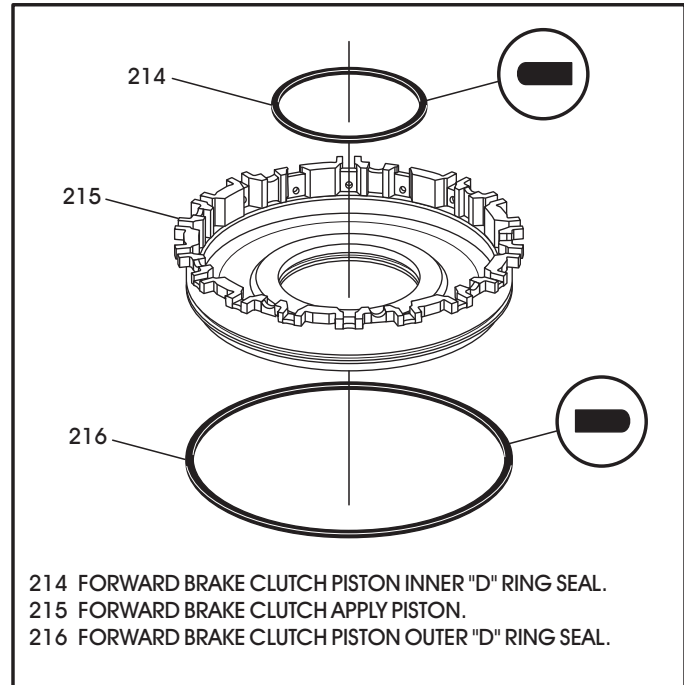

Figure 77
22. Install new "D" ring seals into the grooves of the forward brake clutch piston, as shown in Figure 77, and lube with a small amount of Trans-Jel®.